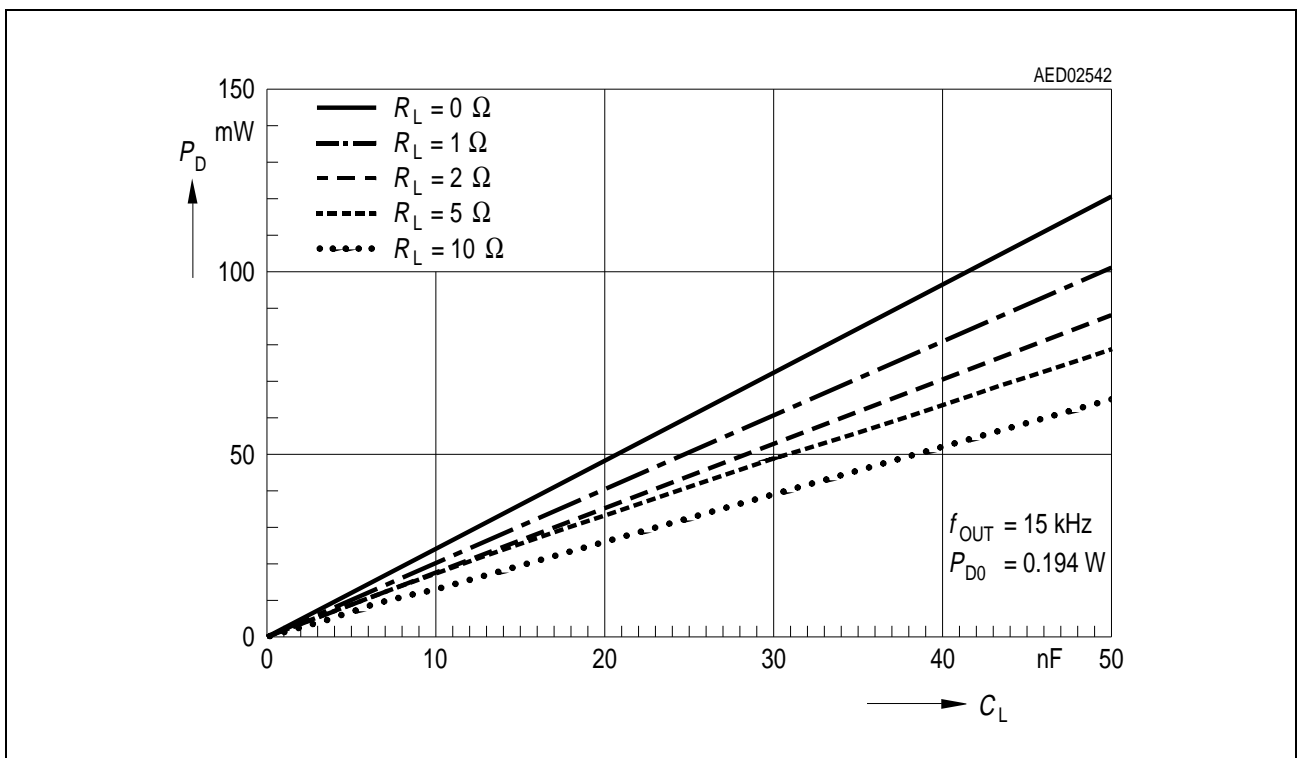
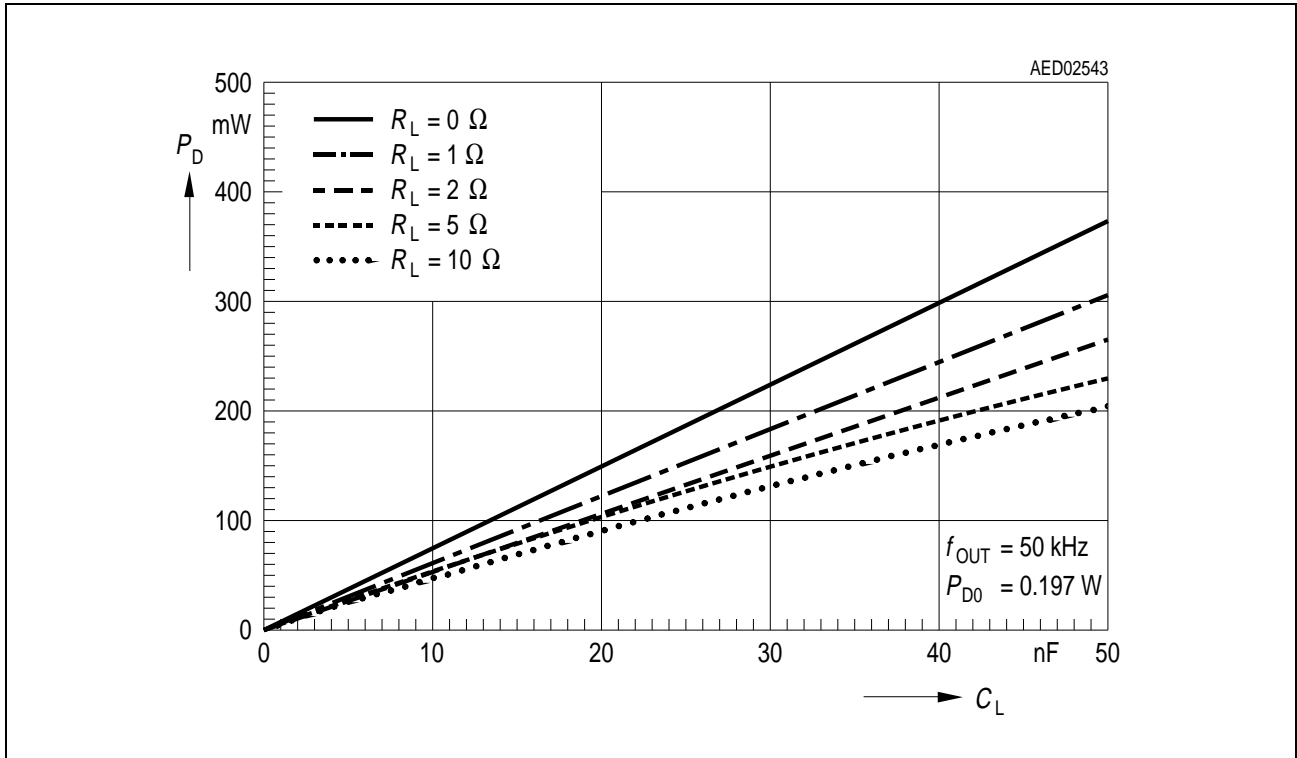
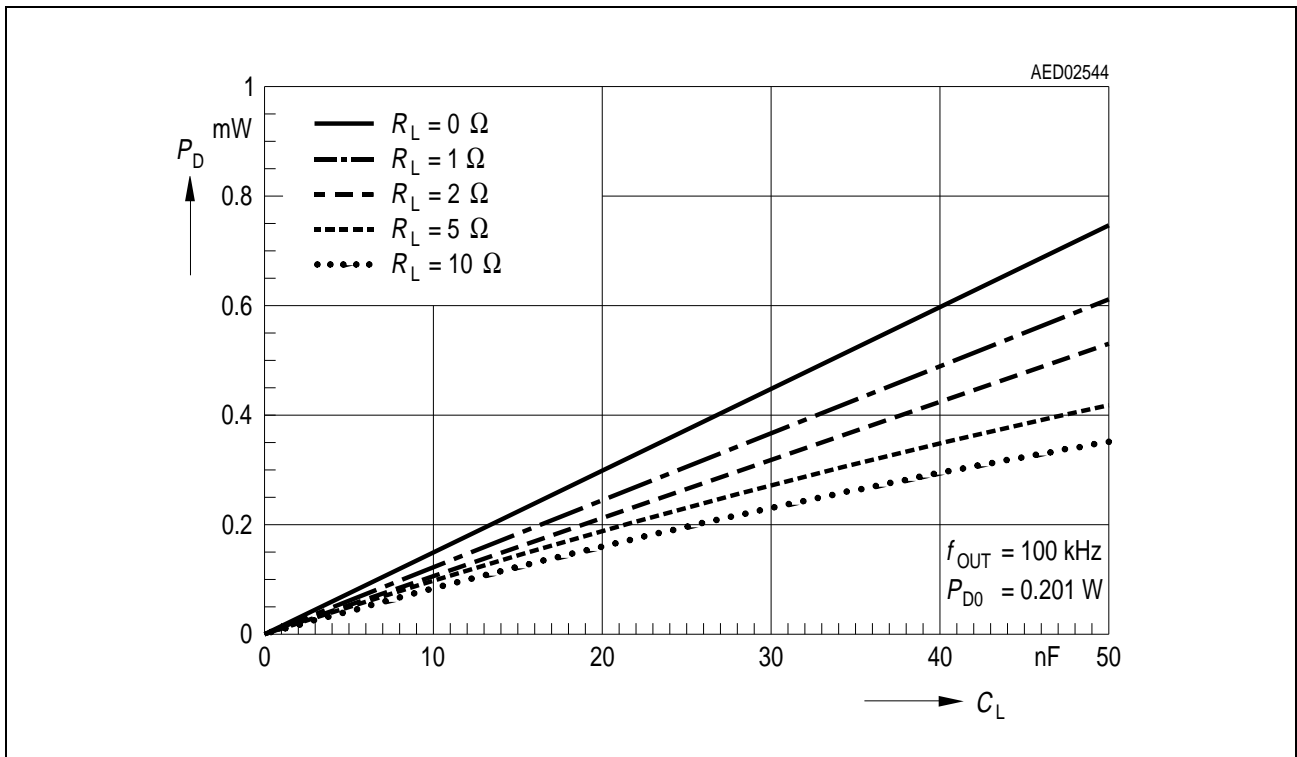
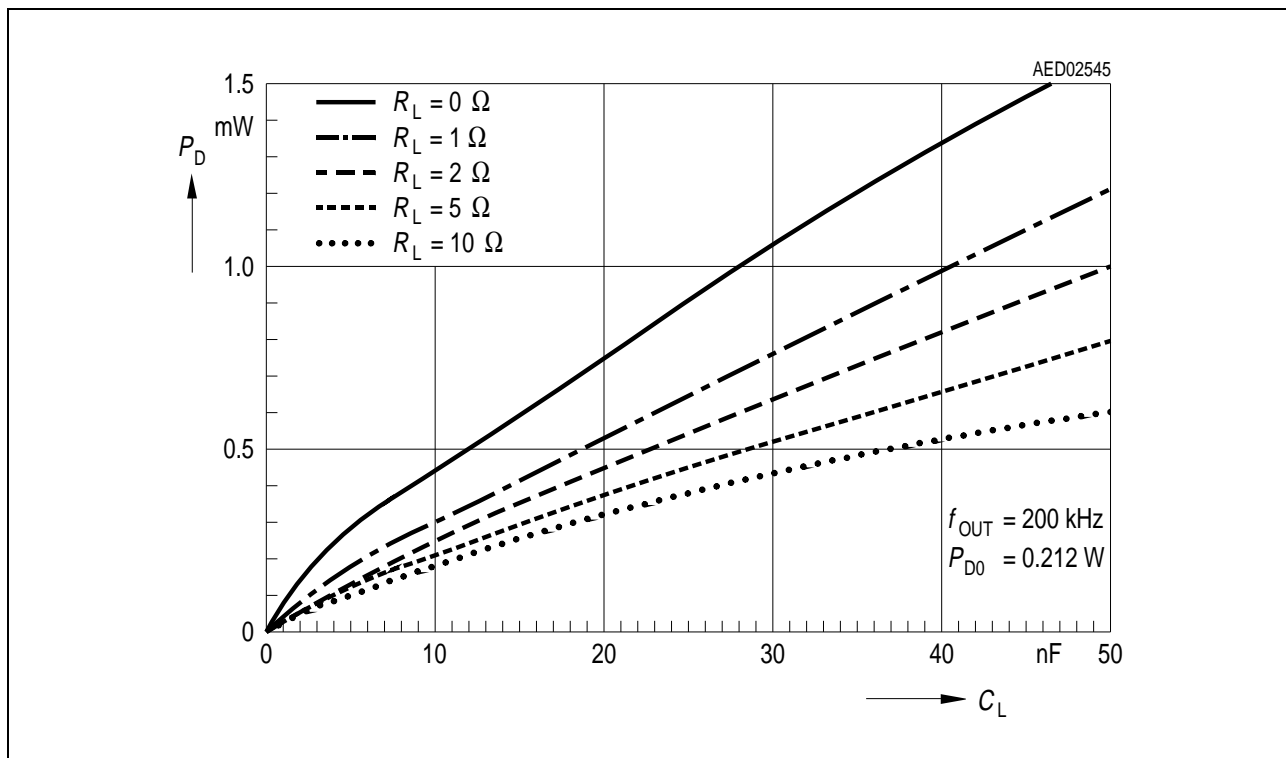

Figure 14 Power Dissipation of Single Gate Driver at  $f_{OUT} = 15 \text{ kHz}$
Figure 15 Power Dissipation of Single Gate Driver at  $f_{OUT} = 50$  kHz
Figure 16 Power Dissipation of Single Gate Driver at  $f_{OUT} = 100$  kHz
Figure 17 Power Dissipation of Single Gate Driver at  $f_{OUT} = 200 \text{ kHz}$
3) The gate driver's output performance is characterized in **Figure 14**, **Figure 15**, **Figure 16** and **Figure 17**.